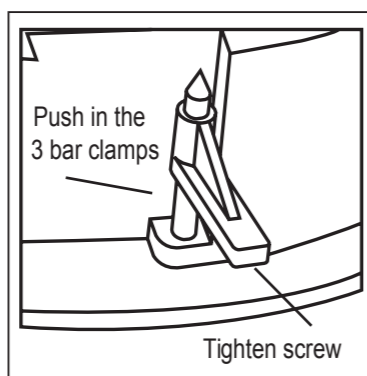

Fig. 7
- a. Before inserting the fan into the opening, push the three bar clamps all the way out to hold the fan in the ceiling. Push the fan into the ceiling opening and secure the exhaust fan by tightening the screws securely (Fig.7)